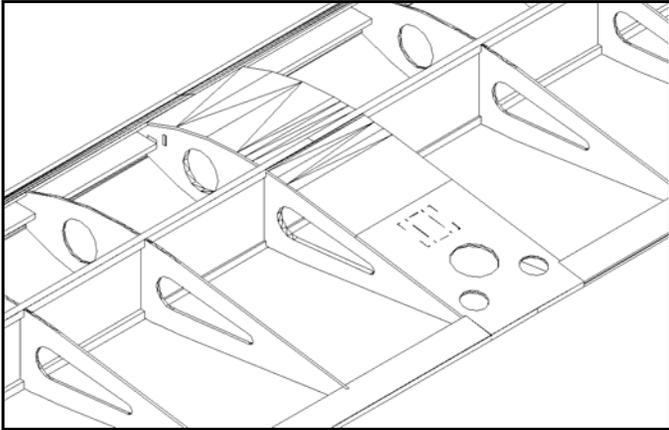

Figure 12
12. Remove part P2 from the plywood sheet, sand off break-aways, and install on top of center ribs. (Fig. 12)
14. Install planking using leftover material from provided $\frac{1}{16}$ " balsa. (Fig. 12)